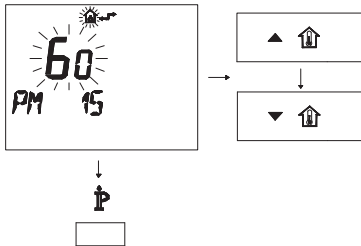

Fig. 7.13
- Modify the programmed SET by acting on buttons \blacktriangle \uparrow or \blacktriangledown \uparrow until a **setting of 60** is displayed, wait for the number programmed to flash (Fig. 7.13)